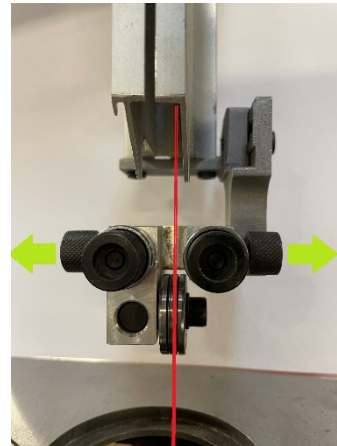

Figure 19
- The two side bearings must be spaced. (Fig 19)